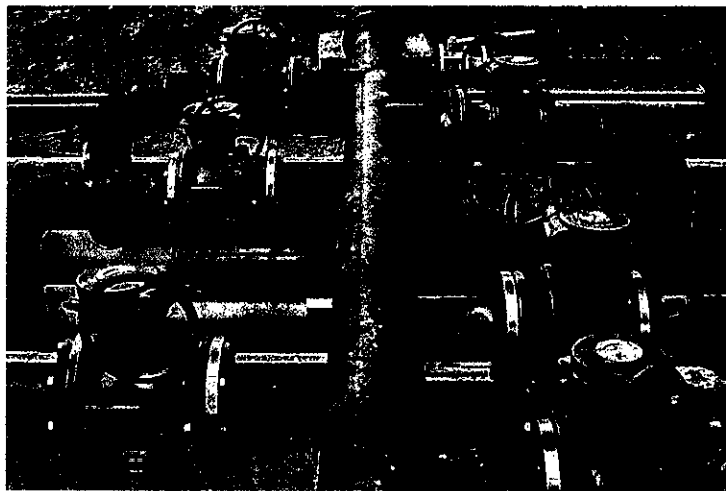

Figure 4(b)/ *Rajah 4(b)*
- (b) Figure 4(b) shows the corrosion occurring which damaging the pipeline in the industry.
- i. Elaborate **ONE (1)** type of corrosion that can occur in Figure 4 (b).